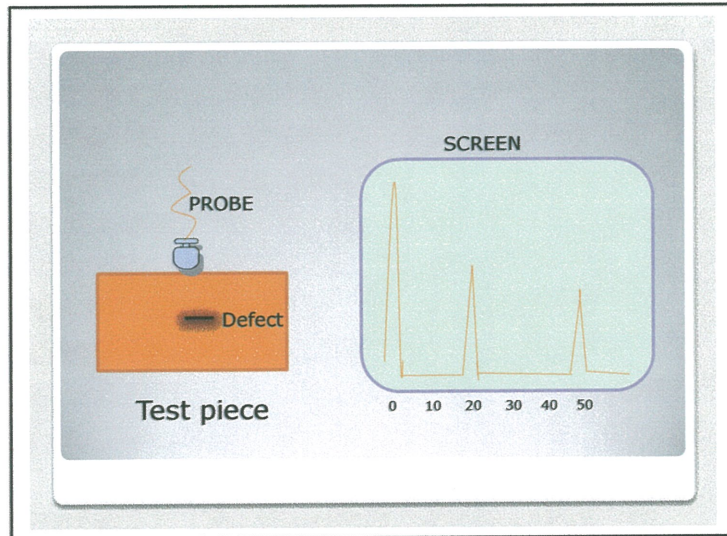

Figure Q3(c)
- (c) An internal defect of a product is inspected using ultrasonic testing method. Figure Q3(c) shows the output on the screen of the test equipment.